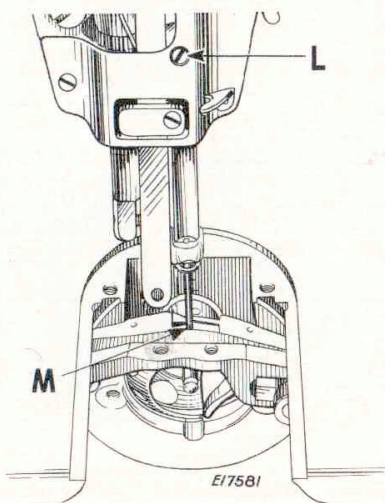

Fig. 16. Timing the Needle
When the shuttle is in this position, the needle bar should have risen  $1/10$  inch and the top of the eye of the needle should be  $1/16$  inch below the point of the shuttle, as shown at (M, Fig. 16).
If the eye of the needle is not the correct distance below the point of the shuttle, loosen the screw (L, Fig. 16) in the needle bar connecting stud and move the needle bar up or down as may be required, then securely tighten screw (L).